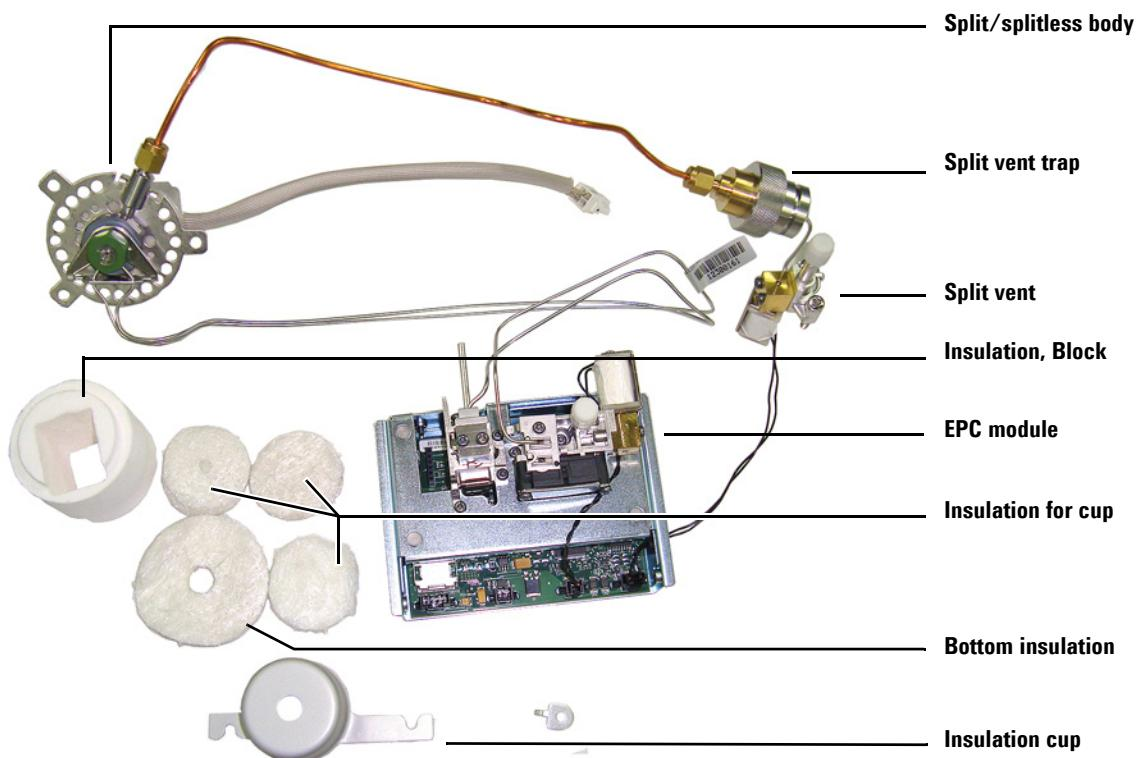

Figure 1 Split/splitless inlet parts identification
- 1 Carefully uncoil the tubing between the inlet body, its EPC module, and the split vent filter assembly (refer to Figure 1). Lay the entire assembly on the oven top with the inlet near its intended location, the EPC module near its associated location in the EPC module bays, and the split vent trap assembly in its associated location.